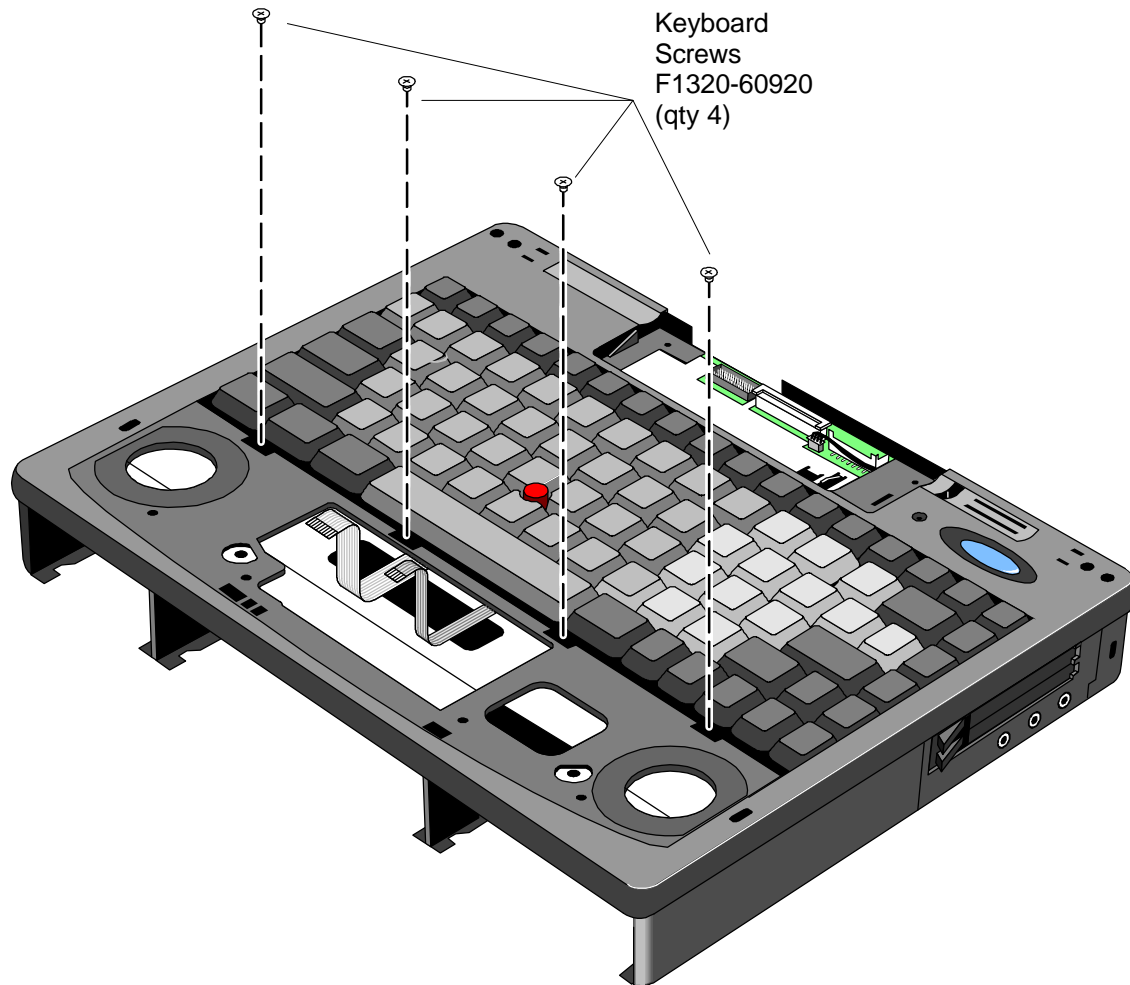

Figure 33 - Keyboard Screws
6. Remove the four Keyboard Screws (see Figure 33 for the location of the screws).